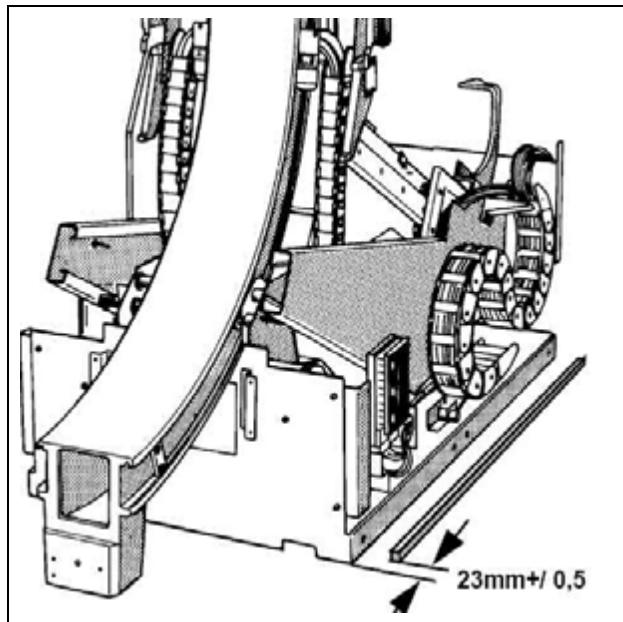

Fig. 15: Transverse system_X_drive
- Move the unit carrier to the front far enough so that the front edge of the front plate is 23 mm \pm 0.5 mm in front of the rail edge. (\(Fig. 15 / p. 49\))